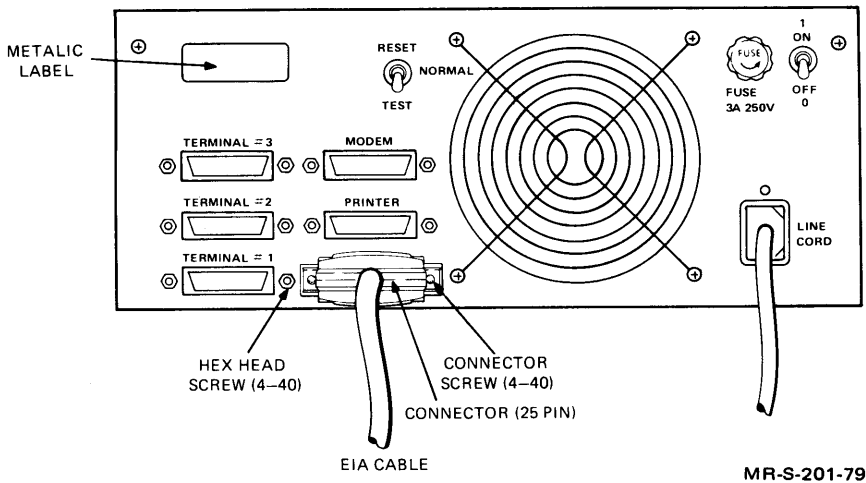

Figure 6. MiniMINC Cable Connections
3. Signal cables between the system and peripheral equipment are disconnected or loose. See Figure 6 for cable connection information.
To run the diagnostic program stored in the MiniMINC read-only memory, proceed as follows (references are to Figure 6):